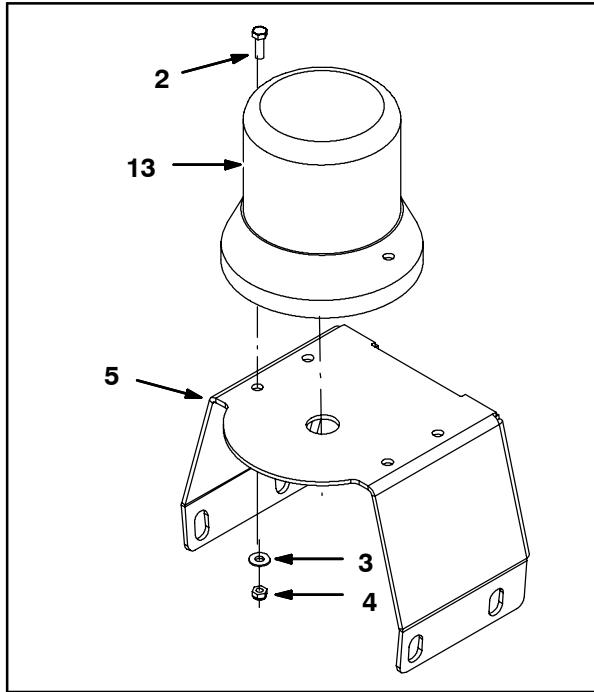

FIG. 2
2. Route the wires from the flashing light (13) down through the hole in the light support bracket (5) and use a hex screw (2), flat washer (3), and hex nut (4) to install the light onto the bracket. Refer to Fig. 2.